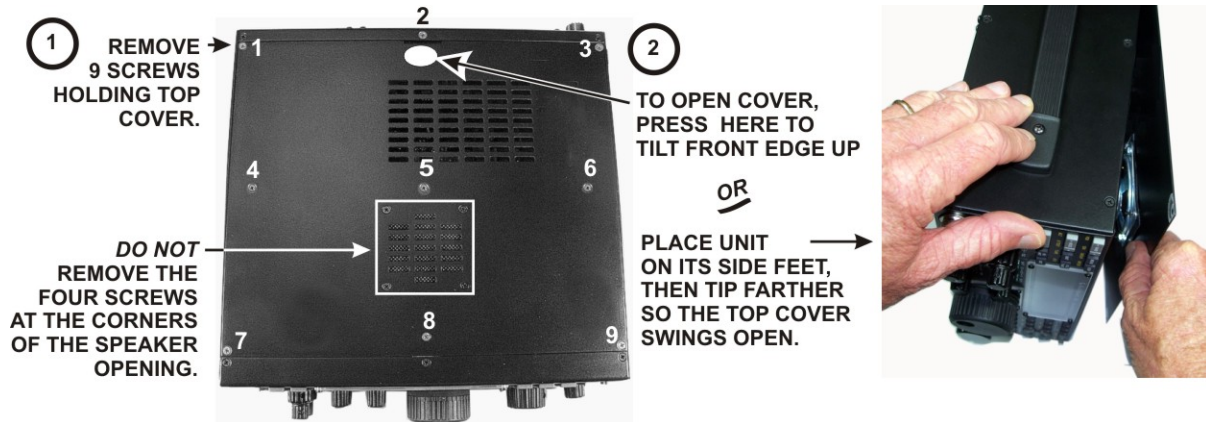

Figure 1. Removing K3 Top Cover.
- Remove the nine (9) screws to free the top cover as shown in Figure 1. After the cover is open, lift it gently to reach the speaker wire connector. Unplug the speaker then set the top cover aside in a safe place.